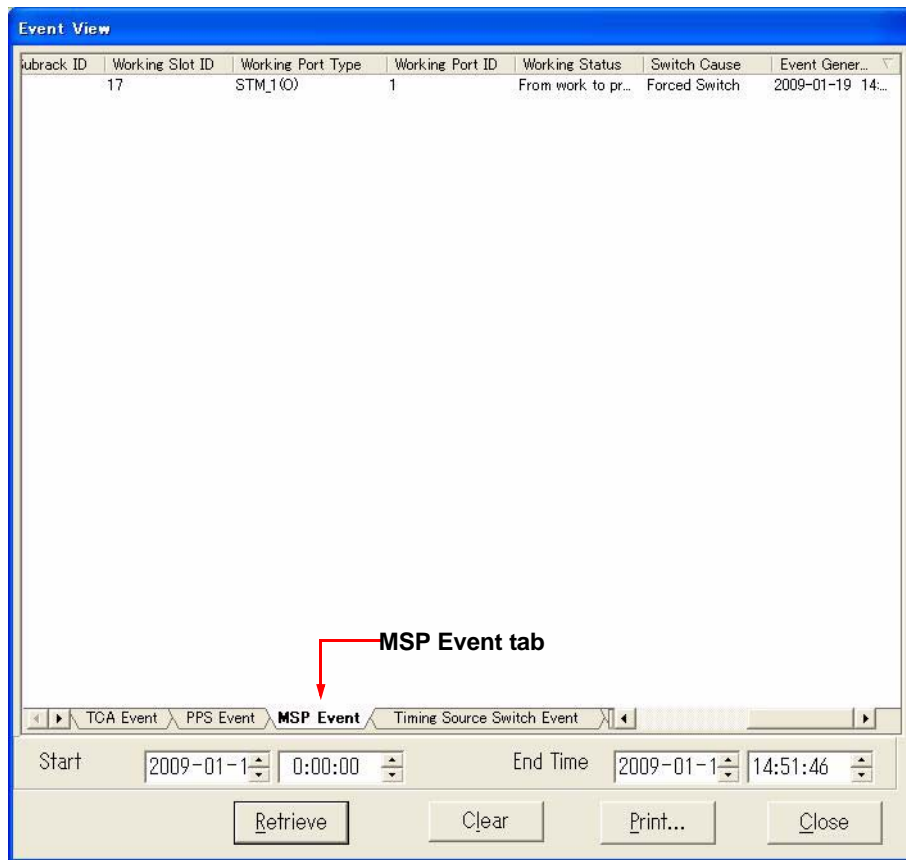

Fig. 4-7-11 Event View Dialog Box with MSP Event Tab
- 4 Click the **MSP Event** tab. The window shown in *Fig. 4-7-11* appears: